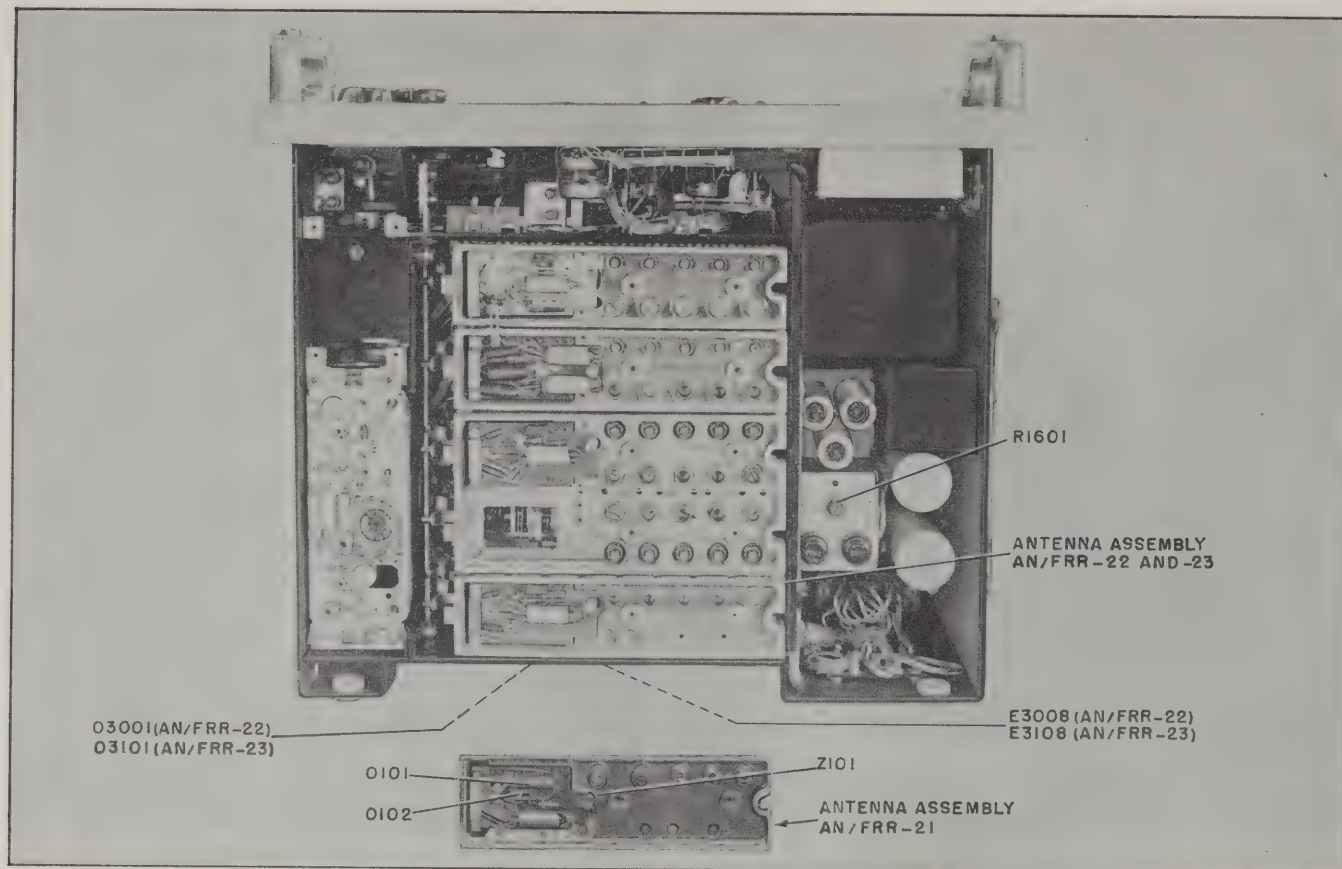

Figure 3-10. Initial Adjustment Component Locations, Bottom View
e. MATCHING ANTENNA IMPEDANCE.—The receivers are shipped with the antenna assembly links, O101 and O102 of Radio Receiver AN/FRR-21, O3001 of Radio Receiver AN/FRR-22, and O3101 of Radio Receiver AN/FRR-23 set to operate with a high-impedance antenna. To match the receiver input to a low-impedance antenna, place the receiver in the servicing position with the bottom of the chassis accessible. Links in the antenna assembly of the receivers should be set according to information given in the appropriate schematic diagram. Location of the link boards are shown in figure 3-10 for Radio Receiver AN/FRR-21, and in figure 3-11 for Radio Receivers AN/FRR-22 and -23.